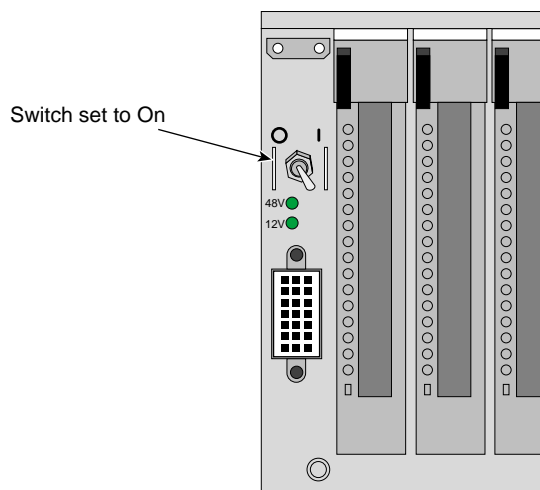

Figure 1-1 Power Switch “On” Setting
2. For each individual brick that you want to power on, make sure that the **PWR** (power) switch is set to the **1** (on) position, as shown in Figure 1-1 for the IX-brick. This will start the L1 controller(s) for the brick(s) when the brick(s) are powered on. The 12-VDC LED on an individual brick illuminates green when an L1 controller has powered on successfully.